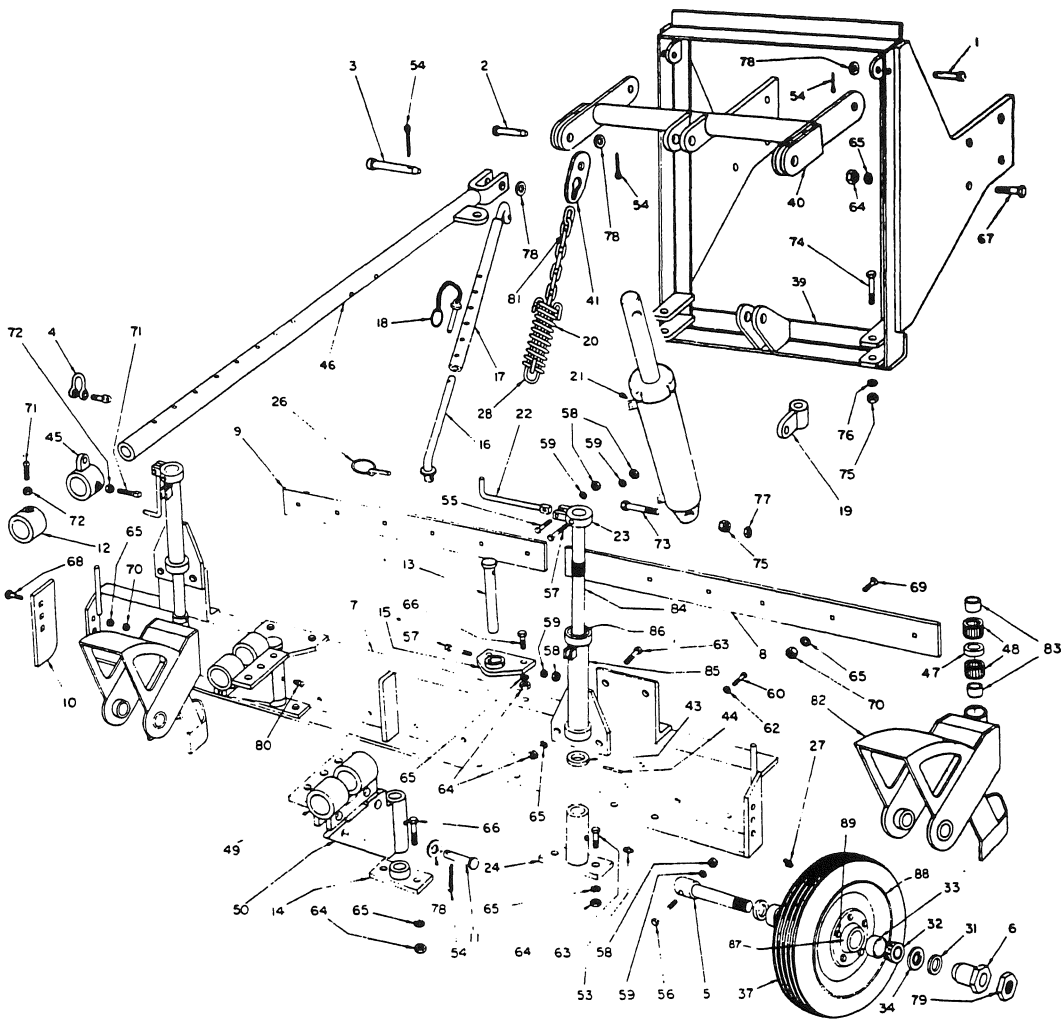

Figure 13
1. Removal and Disassembly (Fig. 13).
- a. Remove the pal nuts (79), adjusting sleeve (6) and spacer (31).
- b. Remove the hexagon head bolt (56), nut (58) and lockwasher (59) retaining the axle (5). Remove the axle, spacer, swivel housing (82) and wheel.
- c. Remove and inspect the two seals (34), bearing cones (32) and bearing cups (33) for serviceability. Replace faulty bearing and seals.
- d. Using a suitable drift, carefully remove the needle bearing inner races (83) and cages (48), together with the spacer (47). Inspect the bearings for serviceability. Replace faulty bearings.
12. Assembly and Installation (Fig. 13). To assemble the wheel axle and swivel housing assemblies, proceed as follows:
- a. Lubricate the bearing cones (32) and bearing cups (33) with grease. Carefully install the bearings into the wheel hub bore, followed by the two seals (34).
- b. Place the wheel at its position in the swivel housing (82), and install the axle (5) and spacer (31), taking care not to damage the seals. Retain the axle with the hexagon head bolt (56), nut (58) and lockwasher (59).
- c. Install the spacer. Install the adjusting sleeve (6), and tighten sufficiently to maintain free-running of the wheel bearings; then install and tighten the pal nut (79).
- d. Using a suitable drift, install the needle bearing inner races (83) and cages (48), together with the spacer (47).
## KEY TO FIG. 13